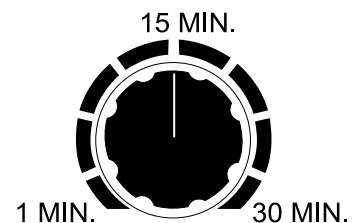

Figure 44. Time Regulator
- Next, set the time regulator to the desired setting. The example shown in (Figure 44) indicates 15 minutes.